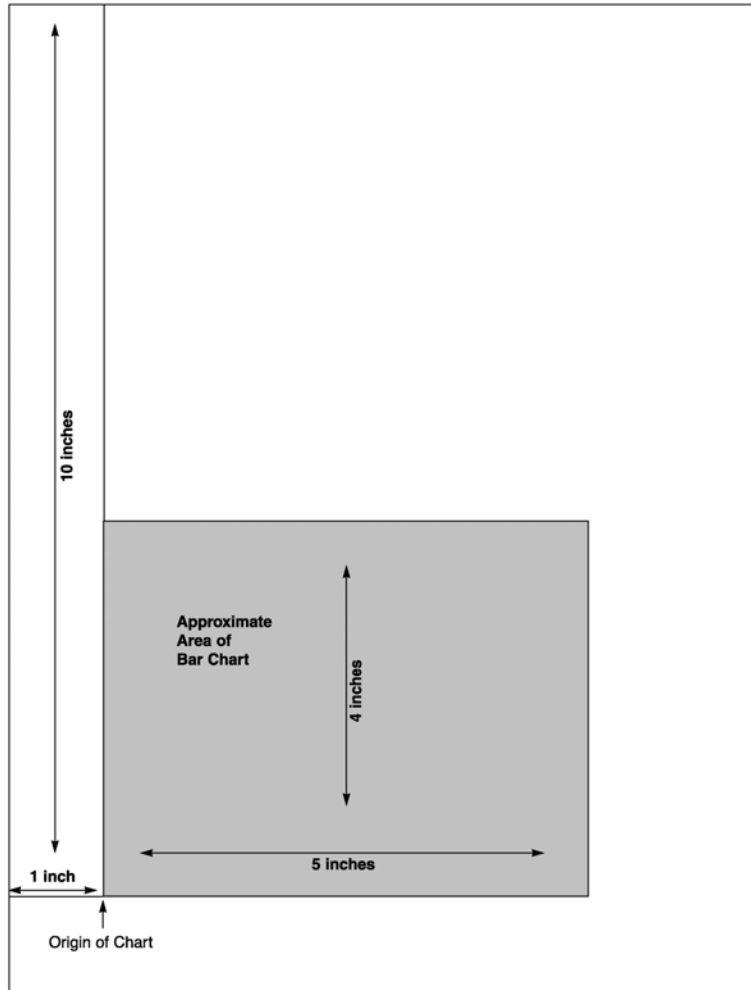

Figure 11
3. Determine where the chart should be placed (always in relation to the top left-hand corner of the printable area). In the example, the bar chart is on the bottom half of a letter size page. The origin of the chart is one inch away from the left margin and 10 inches away from the top margin (Figure 11).